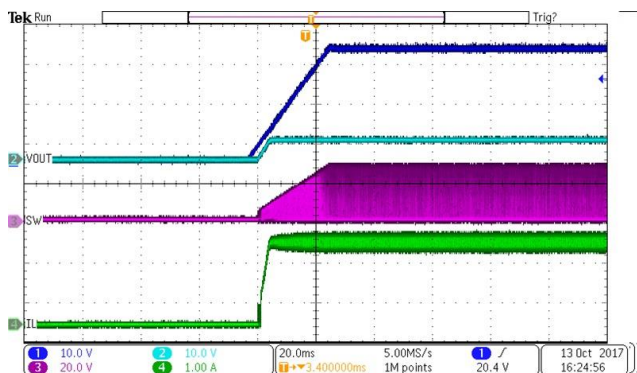

Figure 17. Power Up
The SCT9320 features external programmable output voltage by using a resistor divider network R_1 and R_2 as shown in the typical application circuit Figure17. Use equation (11) to calculate the resistor divider values.